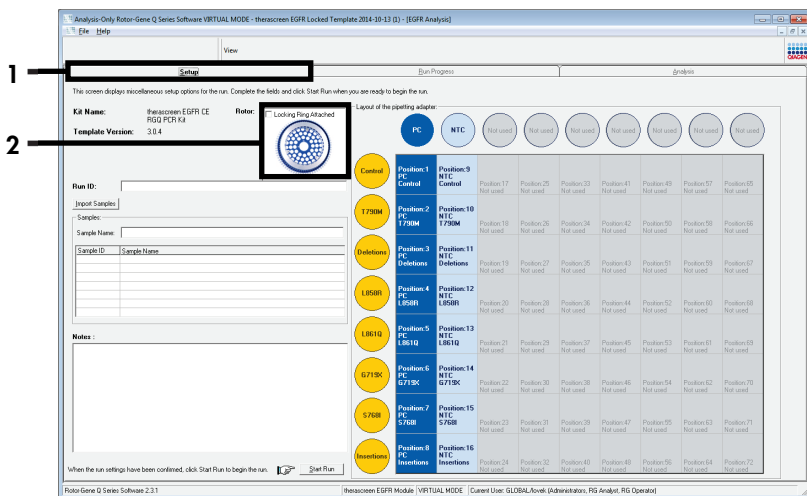

Figure 11. The “Setup” tab (1) and “Locking Ring Attached” box (2).
13. The “Setup” tab opens as the default (Figure 11). Ensure that the locking ring is properly attached then check the **Locking Ring Attached** box. Close the lid of the Rotor-Gene Q MDx 5 plex HRM instrument.